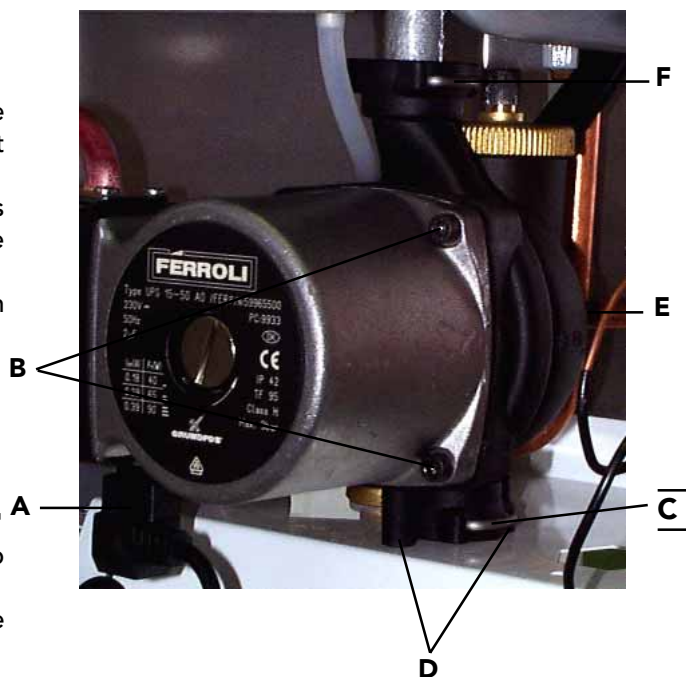

Fig. 45
7.14 Pump (fig. 45)
Replacement of pump body (fig. 45)